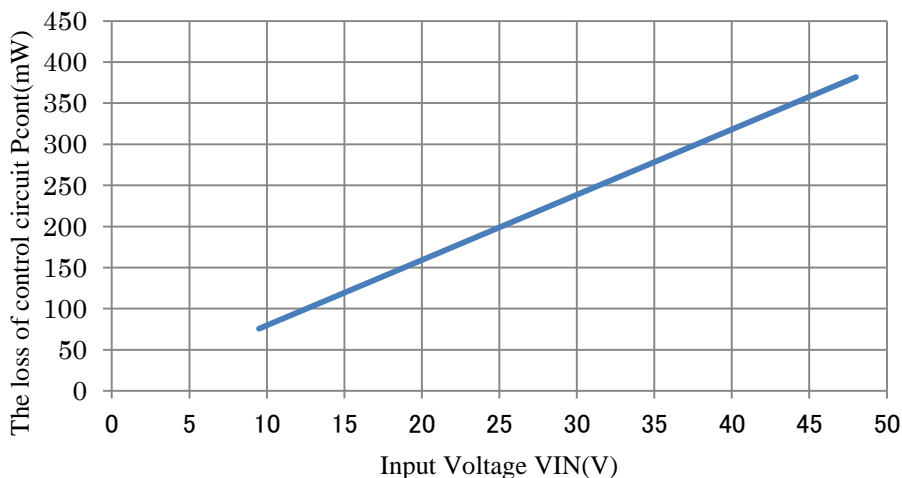

fig.16
The loss Pcont of the control circuit depends on the input voltage and frequency. (fig.16) .
The loss of the control circuit is prescribed with containing the steady loss by circuit static electric current Iq and the drive loss which drives internal PowerMOSFET. A fig.16 is the total of the loss of circuit electric current and the drive loss. Read near value in the fig.16, and substitute it when you calculate a loss.
- $P_{cont}=200\text{mW}$ (It was referred from fig.16.)
- $P_{cont}=100\text{mW}$ (It was referred from fig.16.)
- $P_{cont}=140\text{mW}$ (It was referred from fig.16.)